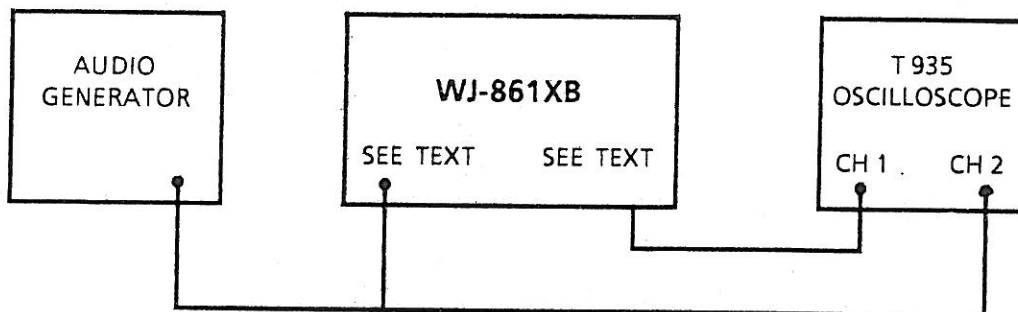

Figure H-1. Audio/Video/COR Performance Test, Equipment Connections
1. Connect the test equipment as illustrated in **Figure H-1**, and remove the FM Demodulators from their slots on the RF/IF Motherboard.